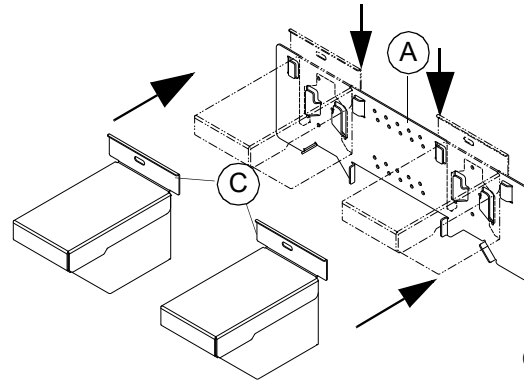

Figure 4-4. Insert Stands Onto Foot Bracket
- See Figure 4-4. Slide foot stands (C) onto foot bracket (A) making sure underside of pockets clear bottom bracket before engagement. Proper installa-